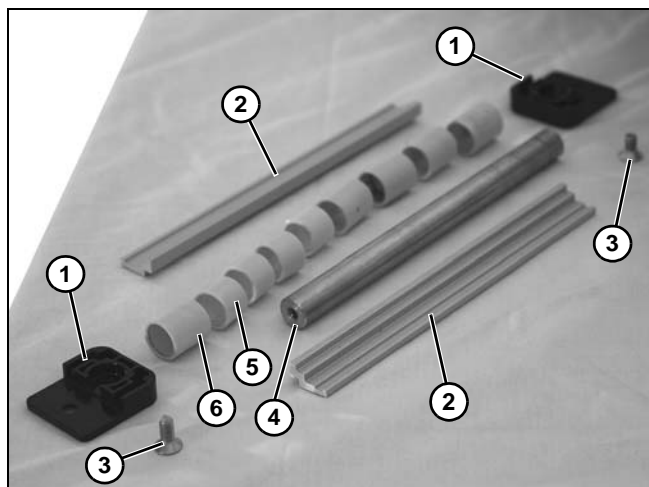

Figure 10
1. Locate return rollers. Exploded view shown in Figure 10.
2. Remove screws (Figure 10, item 3) from roller assembly.